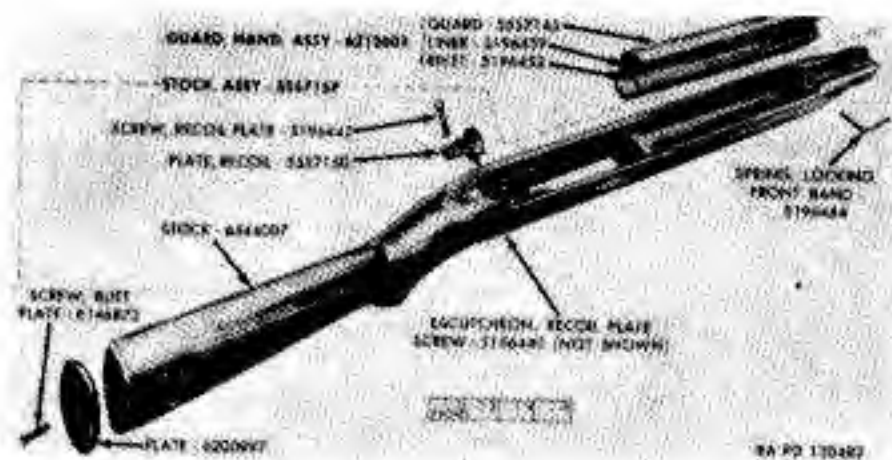

Figure 93. Stock and guard assemblies — carbine M1.
*a. Front Band Locking Spring* (Figs. 93 and 94). Insert small, straight punch in spring spindle hole in left side of forward end of stock and drive out front band locking spring part way, from left to right; then rotate spring and pull from hole.
*b. Recoil Plate* (Figs. 93 and 94).
- (1) Inscrew recoil plate screw counterclockwise until clear of escutcheon
- (2) Loosen recoil plate by tapping lightly on rear top face with a metal tool. Pull plate directly forward out of seating recess in stock. Do not pull up or down, because rear seating lug on plate seats in a horizontal recess cut in the stock.
- (3) Do not remove the recoil plate screw escutcheon from the stock except for replacement. To remove, thread recoil plate screw into the escutcheon from the underside until all of the threads of the escutcheon are engaged and pull escutcheon out of stock. If withdrawal is difficult, insert small straight punch from top of screw hole in stock and tap end of screw lightly to loosen escutcheon, or thread screw in from top, part way, and tap lightly; then proceed as above.
*c. Butt Plate* (Figs. 93 and 94). Unscrew butt plate screw counterclockwise and remove from stock. Loosen butt plate by tapping it lightly. Pull to rear off stock. If butt plate is tight, do not pry off, as stock is likely to be damaged. Tap on edges lightly all the way around, until loose enough to pull from stock.
*d. Hand Guard* (Figs. 93, 94, and 96). The liner of the hand guard assembly is riveted to the hand guard; do not remove it.
*b. Loose Rivets in Hand Guard Liner.* A hand guard liner (Figs. 93 and 94) indicates improper spreading of the rivets. These rivets are tubular; tighten them by spreading the hollow (inner) ends with a blunt punch. Support the opposite (beaded) end of the rivet while riveting. Place rivet head on a small steel rod or punch clamped in a vise.